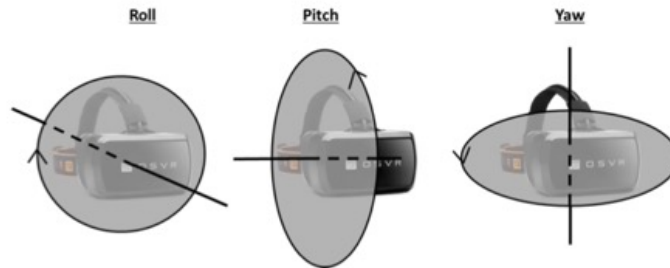

Figure 1: Headset Rotation Axes
- a. Rotate the device ~180° and back to the beginning position in each axis (roll, pitch, yaw) as shown in Figure 1